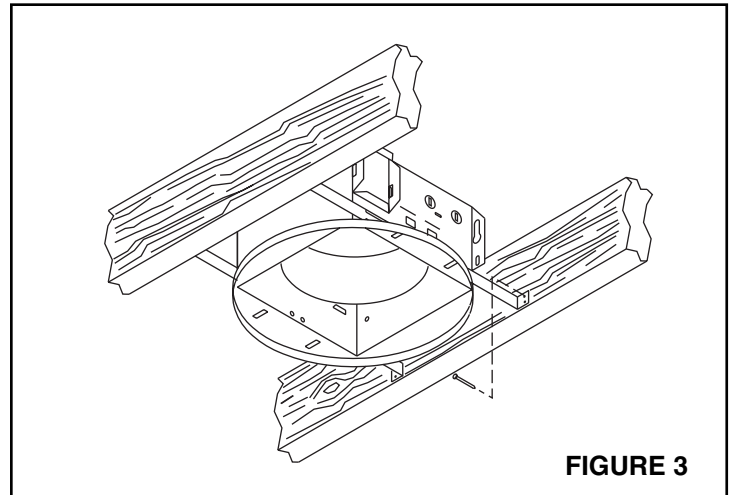
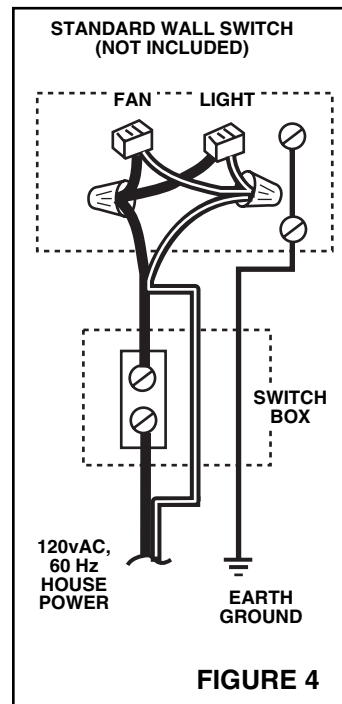
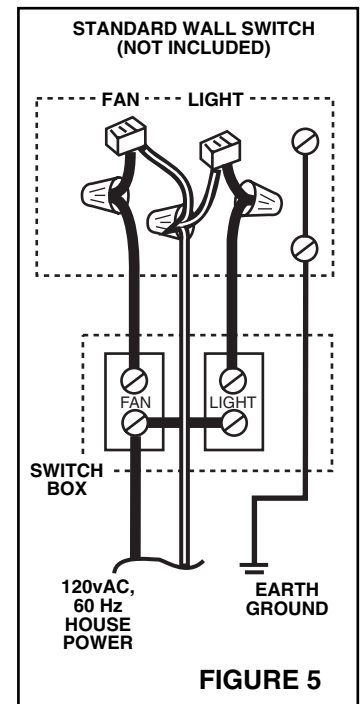

FIGURE 3
FIGURE 4
FIGURE 5
Refer to Figure 3.
4. Refer to Figures 4 and 5. If a single switch will be used to control both the fan and the light, make wiring connections as shown in Figure 4. If a double switch will be used for separate control of the fan and light, make connections as shown in Figure 5.
WIRING AND DUCTING: Plan ducting and wiring BEFORE proceeding with installation. Refer to Figures 4 and 5 for wiring and Figure 3 for ducting.